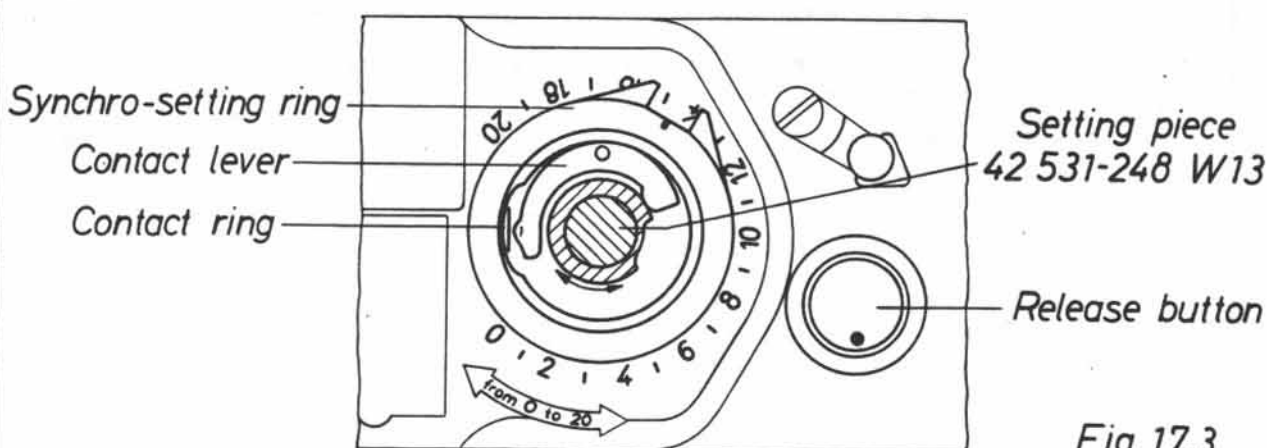

Fig. 17.3
- 1.15 Set lever to "L", tension the shutter of the Leica, and engage the release arm at the $\frac{1}{1000}$ second setting. Mount the setting piece 42 531-248 W13 on the release arm, and turn it without allowing the contact lever to enter the cut-out of the setting piece. At the same time also turn the synchro-setting ring from 0 to 20, and check that the contact lever and contact ring do not make contact anywhere (see fig. 17.3).